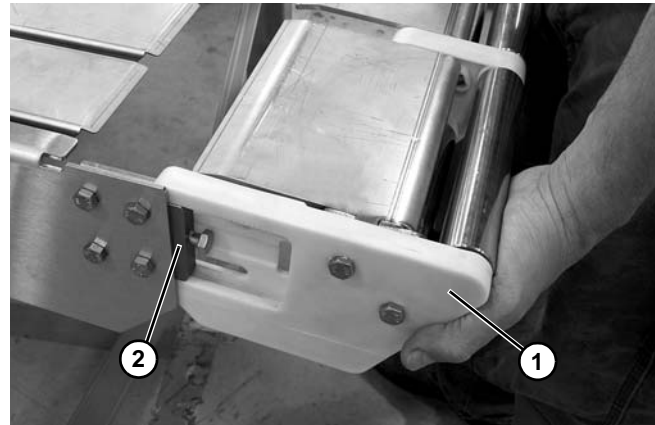

Figure 88
- Slide the nose bar idler (Figure 88, item 1) off the pivot tail blocks (Figure 88, item 2).